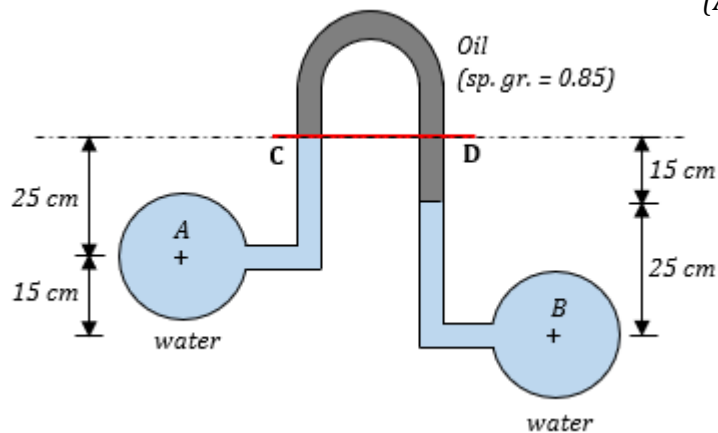

Figure 14
20. An inverted U-tube manometer shown in figure 14 connected to pipes A and B with flowing a water. An oil of specific gravity 0.85 is used as a gauge fluid. Determine the difference of pressure between the pipes.